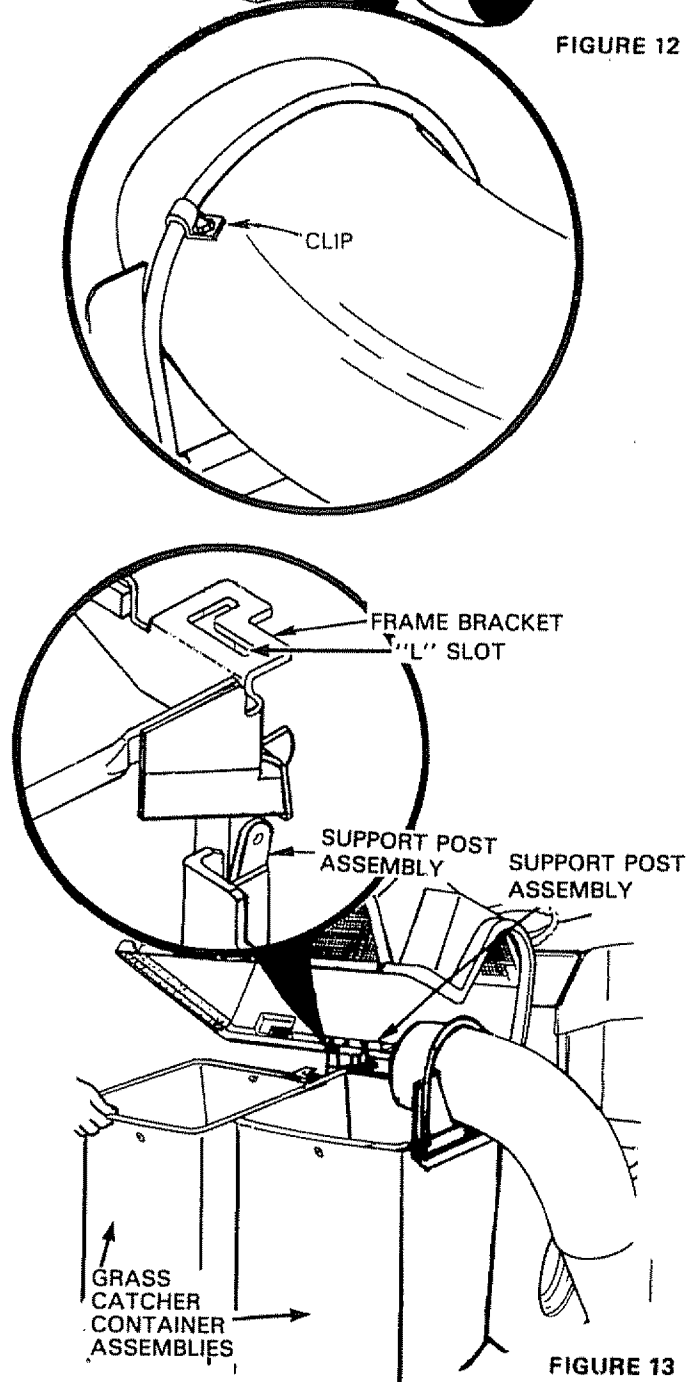

FIGURE 13
12. Position the grass catcher container assemblies onto the support posts through the "L" slots (Fig. 13 - Inset).